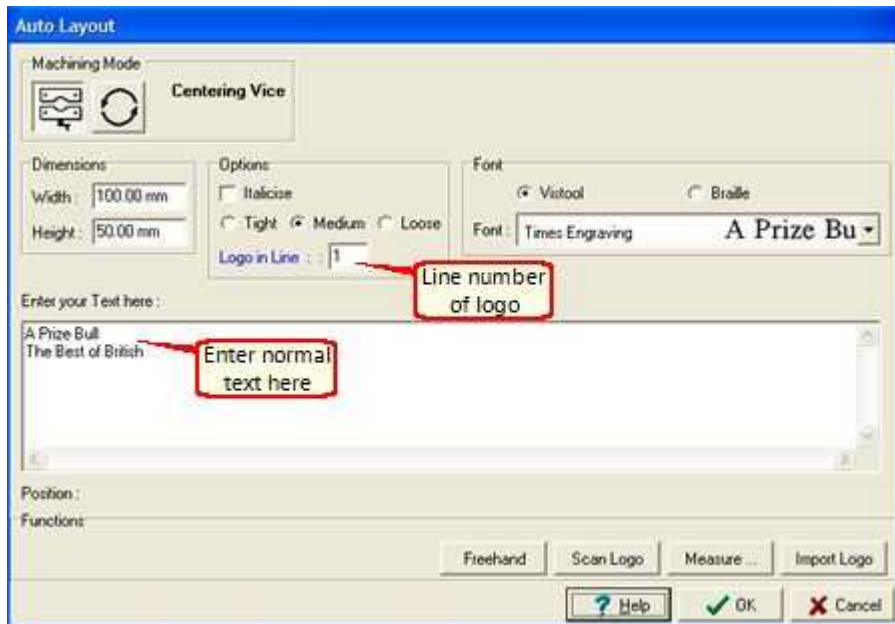

Figure 1
- 7 Enter the text you wish to engrave, within the 'Enter your Text here' area. You will notice the screen has changed slightly to show where the logo is going to be placed. Left click 'OK' to finish, see Figure 1.